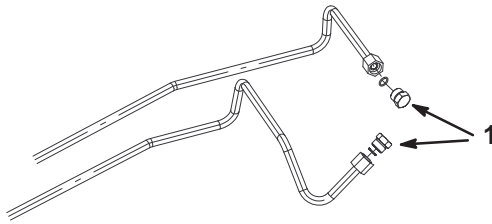

Figure 7
17. Clean the area around the caps on hydraulic tubes (Fig. 7).